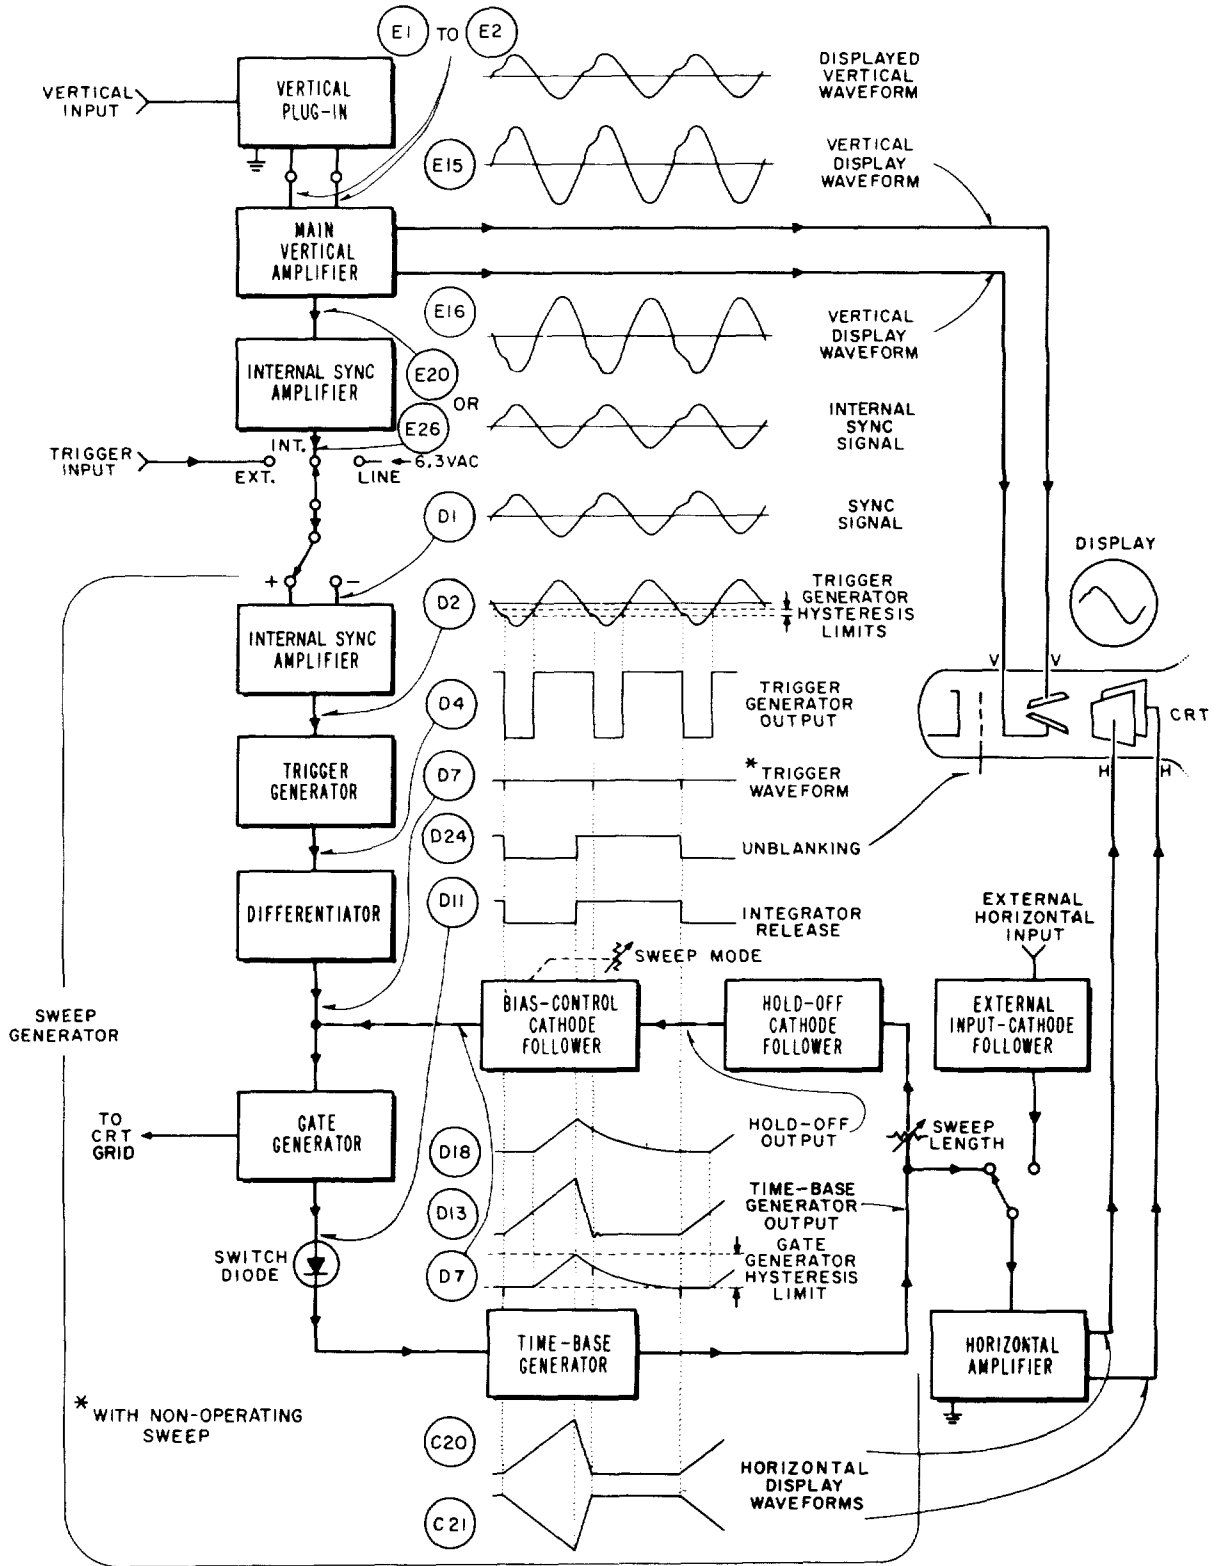

Figure 4-2. Overall Servicing Block Diagram
c. SERVICING BLOCK DIAGRAM. A servicing block diagram for the over-all oscilloscope is shown in figure 4-2. This diagram provides an alternate means of trouble-shooting by measuring waveforms at various test points as shown. Physical locations of the test points referenced in all servicing block diagrams and schematics are shown in figures 4-14 through 4-22.